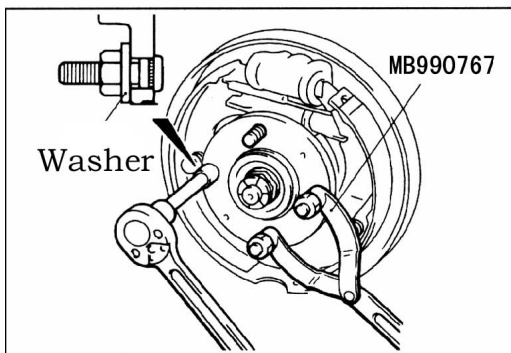

Fig.13-4
- (3) install the plain washer to the new hub bolt, and install the bolt with a nut.(see Fig.13-4)。